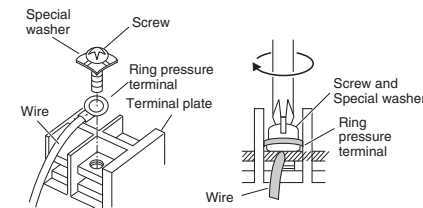

Fig. 4-6
- Place the ring pressure terminal, and replace and tighten the removed terminal screw using a screwdriver. (Fig. 4-6)